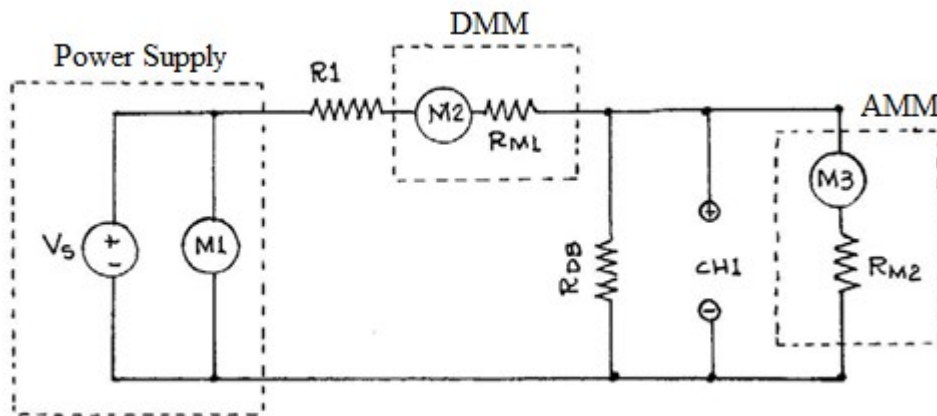

Figure 3: Using  $R_{DB}$  as a shunt.
- To understand how shunts work, connect the following circuit (Figure 3).
The circuit shown in Figure 3 can also be used to determine the internal resistance  $R_{M2}$ . Therefore, construct this circuit, set the analog multimeter on the 1 mA scale and set  $R_{DB}$  at approximately  $400 \Omega$ . Record five sets of values for  $M3$  (mA),  $M1$ (V),  $M2$  (mA), and  $CH1$  (V) by adjusting the DC supply voltage so that  $M3 = 1, 0.8, 0.6, 0.4,$  and  $0.2$  mA.